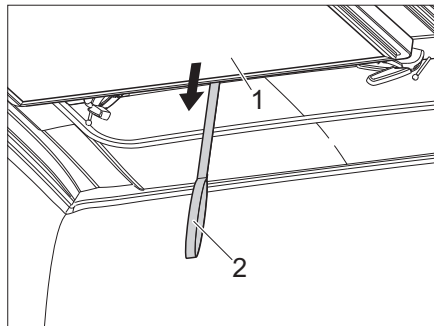

Fig. 7 Pulling the sleeping area downwards
- Pull the sleeping area (Fig. 7,1) downwards with the belt (Fig. 7,2).
- ▷ Before closing the pop-up roof pull the sleeping area (Fig. 7,1) down. **Do not** pull the sleeping area and the pop-up roof down at the same time.